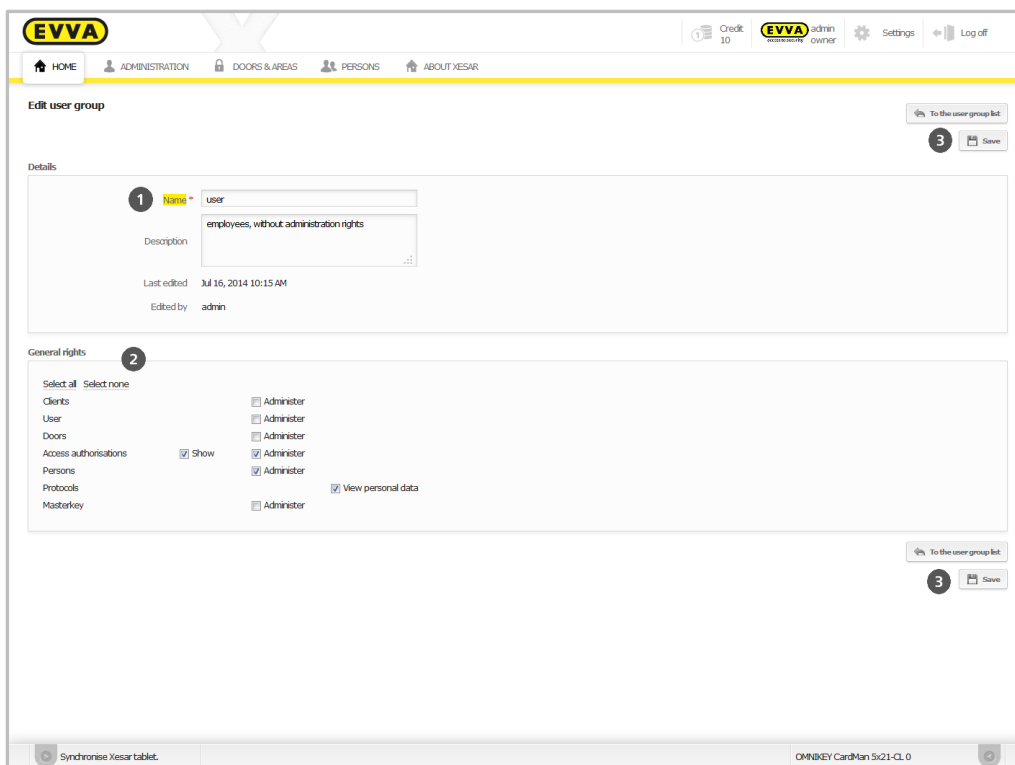

Figure 65: Editing usergroups
- Click the user group you would like to change in the user group list (Figure 65: Editing user).
- Check or change the details (name, description) ❶.
- Correct any activated, general rights ❷.
- **Save** changes ❸.